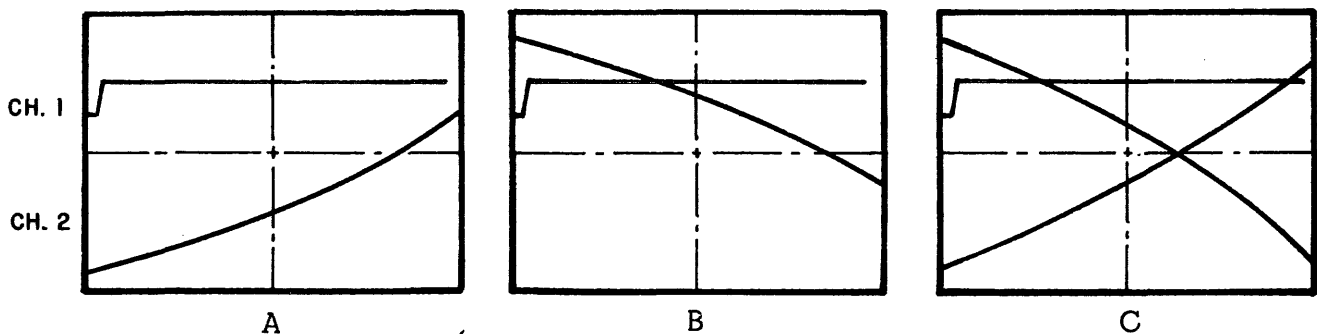

Figure 62. Triggering Method
3. Set Channel 1 scope probe on TP103 and the Channel 2 probe on TP102. Set the scope sweeptime at  $1 \mu \text{ sec/cm}$ . One of the patterns shown in Figure 62 will be observed on the screen:
4. If the display of Figure 62-A is observed, proceed to step 5, since this indicates that correct triggering of alternate bits generated by the negative analog signal peaks has been achieved.
- a) If the display of Figure 62-B is observed, triggering is on alternate bits but created by the wrong polarity analog signal peak. To correct the triggering, lift and re-apply Channel 1 probe to TP103. Normally, after one or two tries, triggering will switch to the correct polarity.
- b) If the display of Figure 62-C is observed, triggering again is incorrect because it is occurring on every bit. To correct this condition, change to a faster or slower scope sweep speed.
- c) Once the display of Figure 62-A is obtained, do not change the sweep speed for the remainder of the procedure. If greater sweep speed resolution is required, use the Horizontal Magnifier. Correct triggering will be maintained as long as the trigger probe is not moved to another point or if the tape does not change direction.